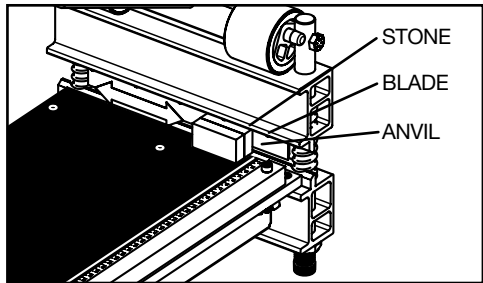

Figure 8
**BURRS OR NICKS ON BLADE:** Burrs or nicks may develop on the inner (bed facing) side of the blade that can cause the blade to seem dull and cut less efficiently. A sharpening stone is available (Part No. 1675-28) for restoring the edge as much as possible (Figure 8), but is NOT INCLUDED WITH THIS CUTTER. Any standard sharpening stone, preferably one with one side coarse and the other side fine, may also be used.